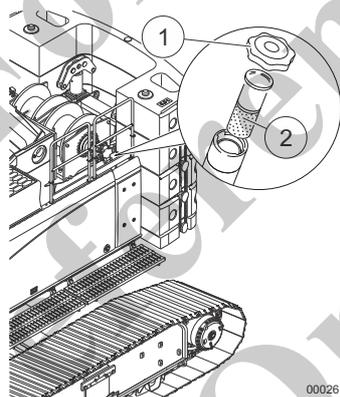

Fig. 97 Cover and wide-mesh screen of the filler neck
4	Open the cover (1) in Fig. 97 of the filler neck.
5	Clean the wide-mesh screen (2) in Fig. 97.